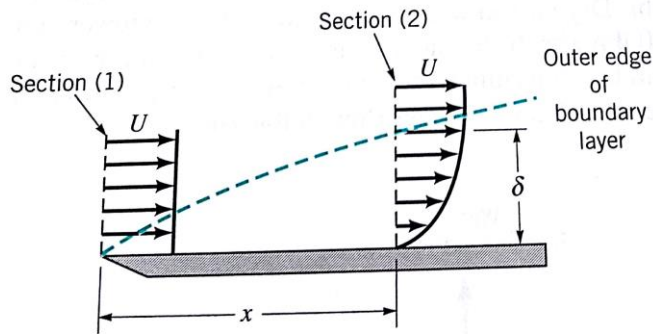

FIGURE P5.24
5.24 Flow of a viscous fluid over a flat plate surface results in the development of a region of reduced velocity adjacent to the wetted surface as depicted in Fig. P5.24. This region of reduced flow is called a boundary layer. At the leading edge of the plate, the velocity profile may be considered uniformly distributed with a value U . All along the outer edge of the boundary layer, the fluid velocity component parallel to the plate surface is also U . If the x direction velocity profile at section (2) is